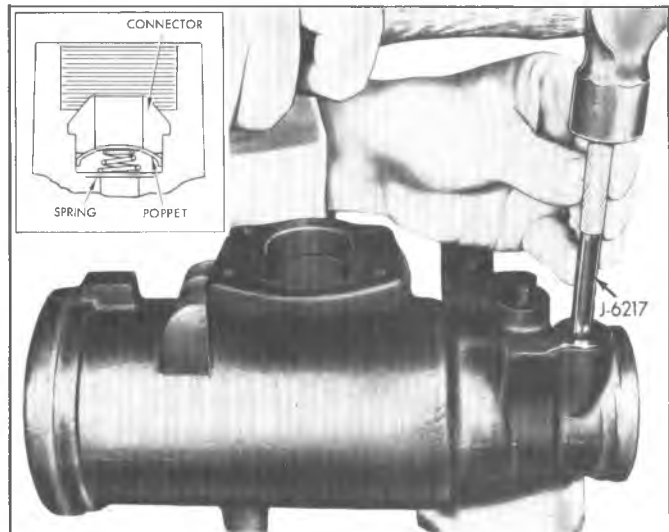

Fig 49--Installing New Connector in Housing
5. Drive the new connector against the housing seat using Tool J-6217, being careful not to damage either the connector or housing seat (fig. 49).